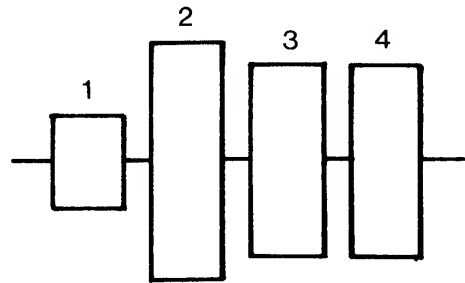

Figure 4-11. Head Azimuth Acceptable Upper Limits
6. Figure 4-11 depicts an alignment of exactly plus 9, 12, or 18 minutes, depending upon the manufacturer of the diskette. Bursts 3 and 4 are of equal amplitude. This is the upper limit of allowable error. If this signal is observed, the Cats Eye alignment should be checked.